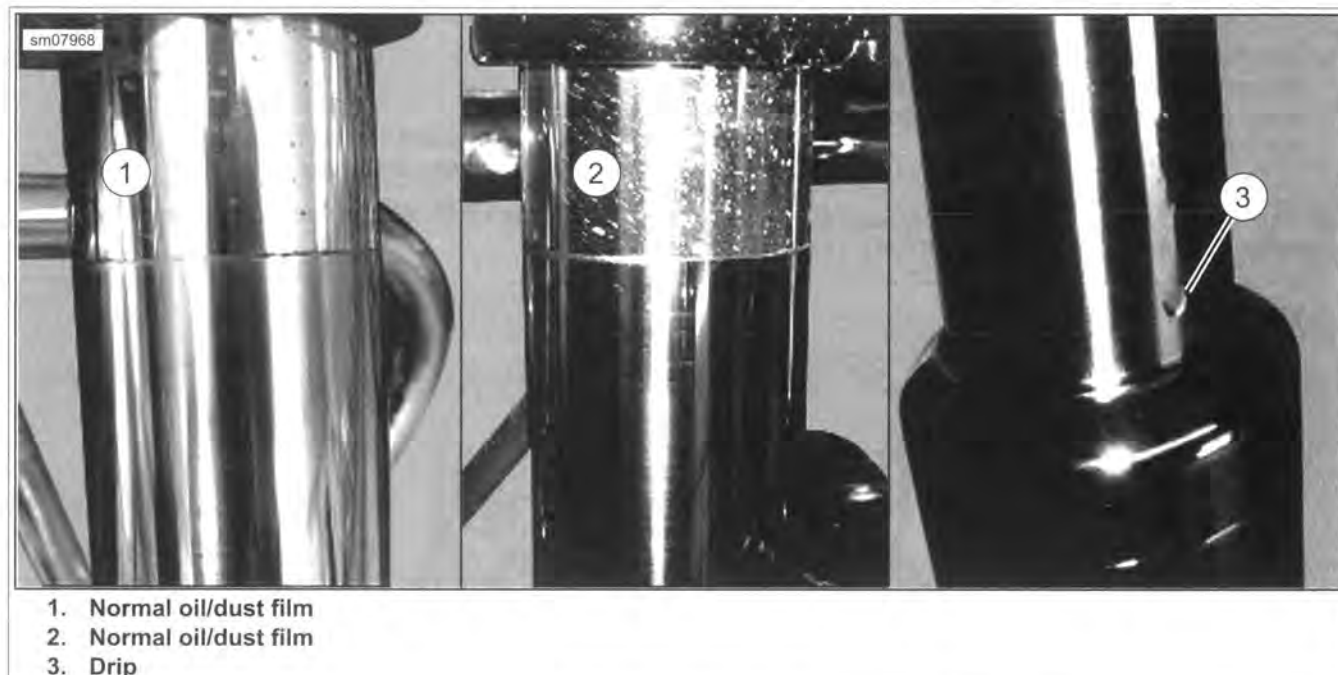

Figure 2-88. Front Forks
4. See Figure 2-88. Check fork slider tube for oil.
- b. If an oil run or drip (3) is present, perform procedure two or three more times to confirm oil leak.